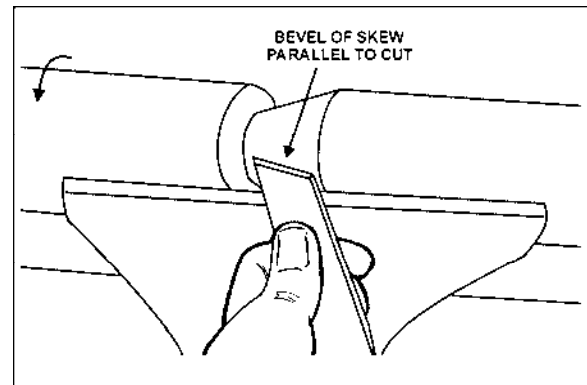

Figure 36
4. With the bevel parallel to the right side of the cut, raise the handle and push the tool in to the desired depth, as shown in Figure 36.